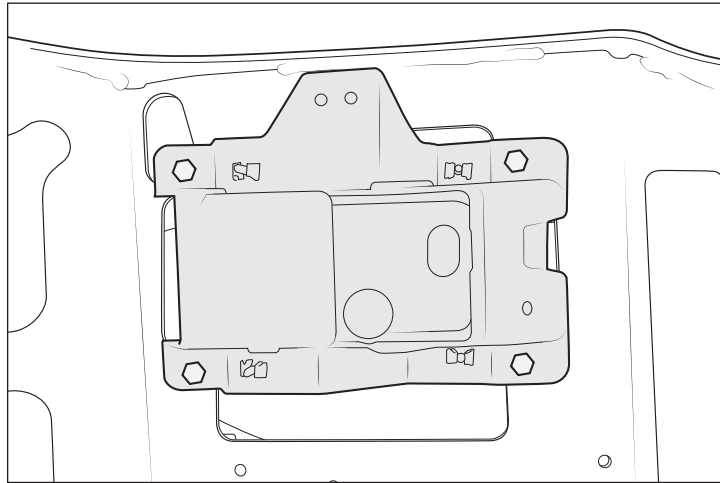

Figure 29
2. If equipped, install the factory fog lights into the bumper corners using factory hardware and torque to 9 lb-ft (fig. 29).